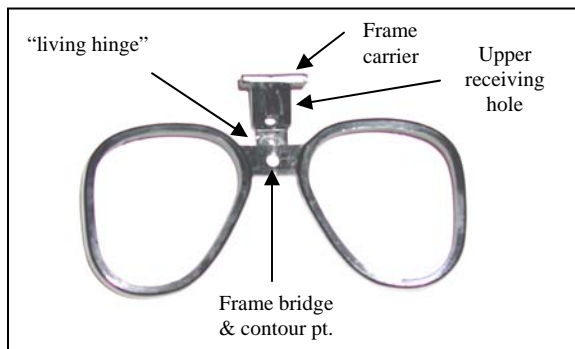

FIGURE 1
The #276-XT Smok Spec Plunger consists of a suction cup, anchor bracket, and interlocking frame front. Anterior-posterior (front to back) adjustment of the frame front can be accomplished by screwing the suction cup in or out of the anchor bracket as needed. The frame front can be adjusted vertically by sliding the “T” shaped frame carrier up or down the anchor bracket’s receiving channel. Vertical alteration can also be accomplished by repositioning the suction cup up or down on the face plate’s inner surface. The #276-XT Smok Spec Plunger can be converted into a #276 Smok Spec Plunger by (a) detaching the frame front from the anchor bracket and (b) unscrewing the suction cup from the back of the anchor bracket and threading it into the upper hole on the “T” shaped frame carrier (see Figure 1). The #276-XT Smok Spec can also be converted into a #411-TS ULTRA Smok Spec simply by removing the suction cup from the anchor bracket. The ULTRA Smok Spec is then attached to the mask by bonding (cementing) the anchor bracket onto the inner surface of the face plate.
**NOTE TO OPTICIAN:** This frame front can be reconfigured to accommodate different lens patterns. For smaller volume air masks or bifocal Rx's, the “Classic” pattern is suggested. For larger volume air masks or single vision Rx's, the “S-11” pattern is suggested. When in doubt, use the “Classic” pattern. This frame’s eye shape can be altered to an S-11 configuration by edging the lenses with an “S-11” pattern ( $\pm 149$  mm lens circumference). The frame front should be contoured (manually or thermally) to approximate the curvature of the face plate. To contour the frame front, bend or fold the frame inward around its contour point (see Figures 1 and 2). To change the frame’s pantoscopic angle or tilt before the user’s eyes, manually bend the frame carrier forward or backward at the “living hinge” (see Figures 1 and 2). The front of the frame should be angled so that the distance of the lenses from the user’s eyes is approximately 14 mm. A properly positioned frame should not make contact with the user’s face. Users should adjust the frame angle before their eyes to meet their individual comfort level.